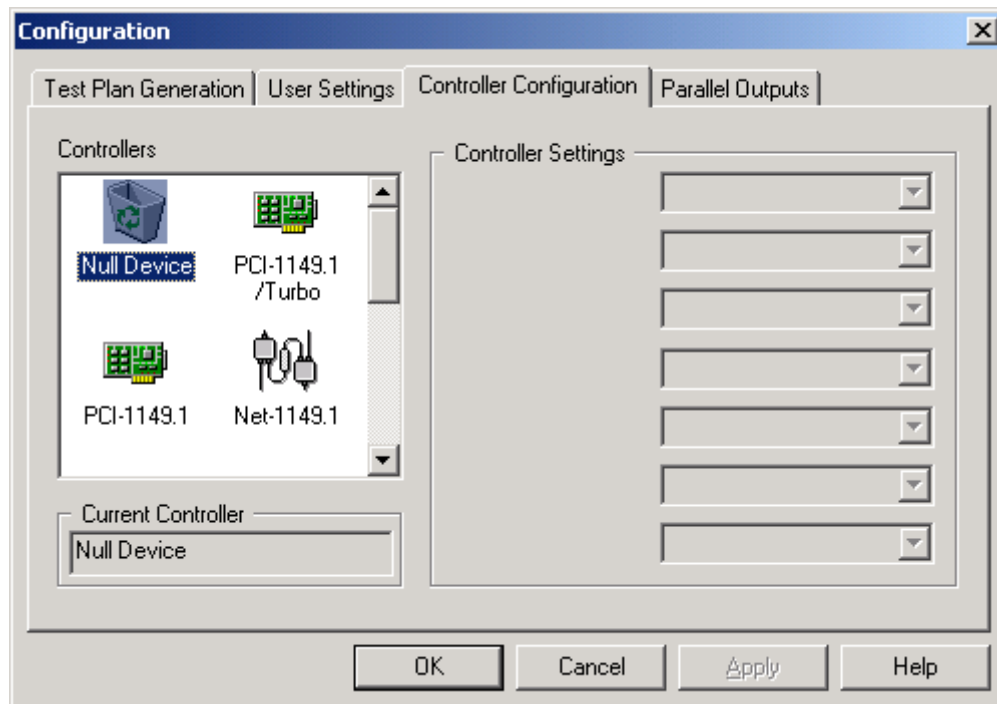

Figure 4-1. Controller Configuration Screen
2. Click the **Setup** menu item and then select the **Controller** entry to display the Controller Configuration screen shown in Figure 4-1.